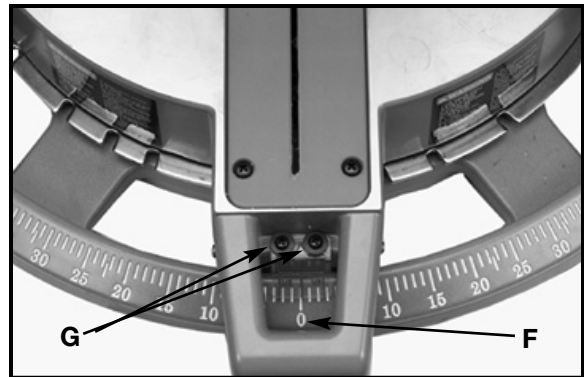

Fig. 16
5. When the fence is 90° to the blade, adjust the cursor (F) Fig. 16, so the pointer is aligned with the 0° mark on the scale by loosening two screws, (G), adjusting cursor (F) and tightening screws (G).